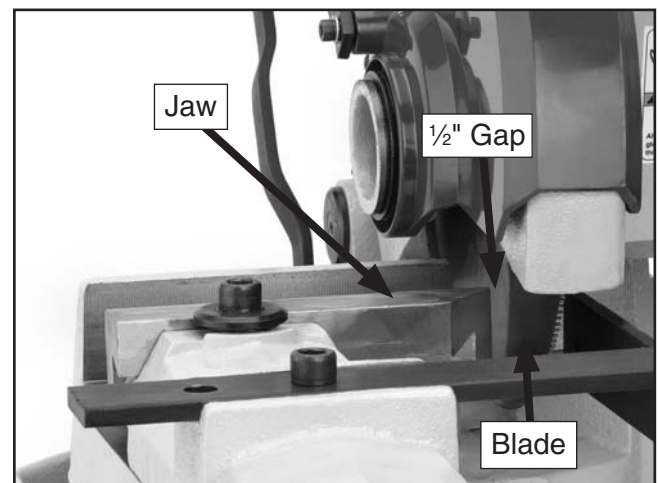

Figure 26. Setting blade clearance.
5. Slide the jaw so that it is approximately 1/2" away from the blade (**Figure 26**).